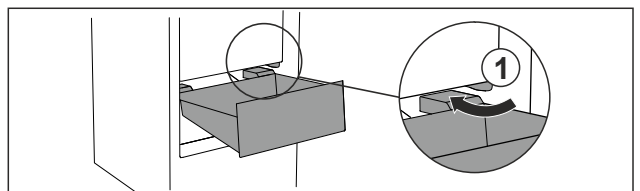

Fig. 57
- ▶ Guide drawer in at an angle around the stoppers Fig. 57 (1).